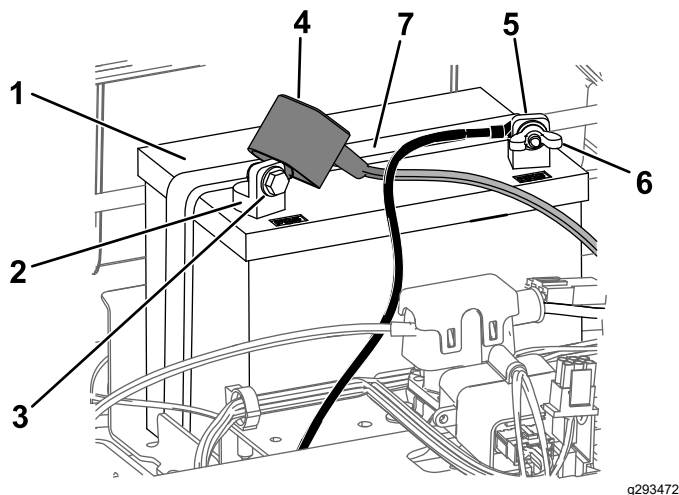

Figure 46
4. Disconnect the negative (black) ground cable from the battery post (Figure 46).
6. Disconnect the positive (red) cable from the battery post (Figure 46).
7. Remove the battery hold-down (Figure 46), and lift the battery from the battery tray.
1. Position the battery in the tray (Figure 46).
5. Secure the battery with the hold-down (Figure 46).